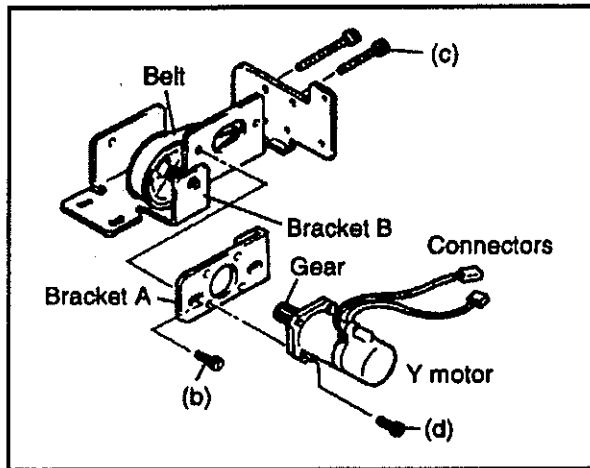

FIG.2
- (2) Set the Y motor gear to the belt and temporarily secure brackets A and B with two retaining screws (b) (Fig.2).
- (3) Adjust the belt tension with retaining screw (c) and firmly tighten two retaining screws (b) (Fig. 2 and 3).
- (4) Connect the connectors. (Fig.2).